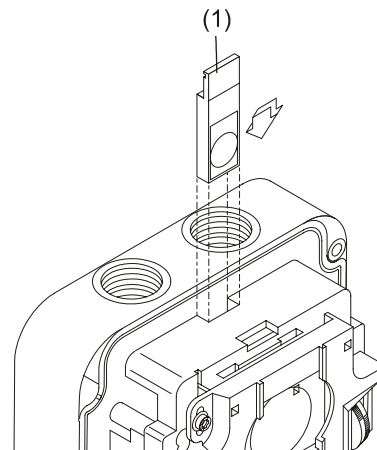

Fig. 4
2. Place the filter (Fig. 4, [1]) in the detector unit.